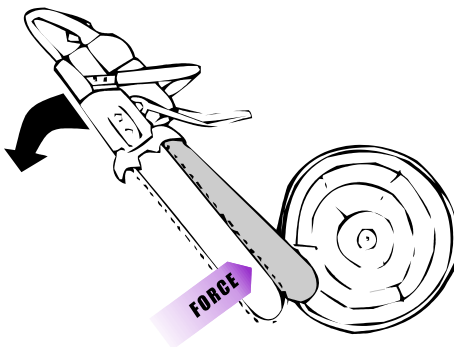

Figure 68 Starting in the middle of the log
3. Commence cut with the top section of the guide bar nose until the depth of the kerf is about the same as the width of the bar. (Fig. 68)